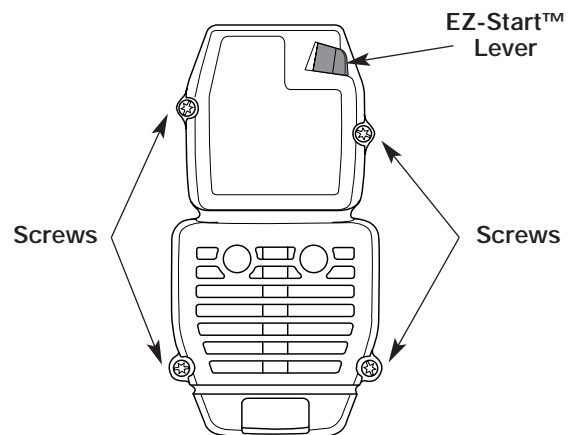

Figure 36
1. Remove the four (4) screws securing the air filter/muffler cover. See Figure 36. Use a flat blade or T20 Torx bit screwdriver.
2. Insert the four (4) screws into the holes in the air filter/muffer cover and tighten. See Figure 36. **Do not over tighten.**